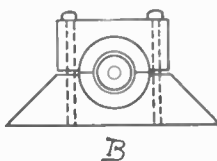
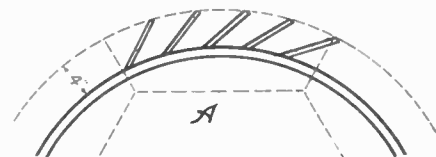

Fig. 5. One of the bearings of the main shaft of the water wheel illustrated above.
Fig. 6. A portion of the water wheel, showing the buckets and how they are placed to hold the water and produce the power.
Fig. 5 shows a bearing (B) which is formed of babbitt metal held in place by two blocks of wood, as shown. Pour the metal directly in the wooden blocks in two pieces—a top and a bottom. Set screws will hold the block in place, also providing a method of taking up wear in the bearings. Fig. 6 shows the way of making the buckets on the wheel. Boards one inch thick by 16 inches wide may be sawed lengthwise part way through on